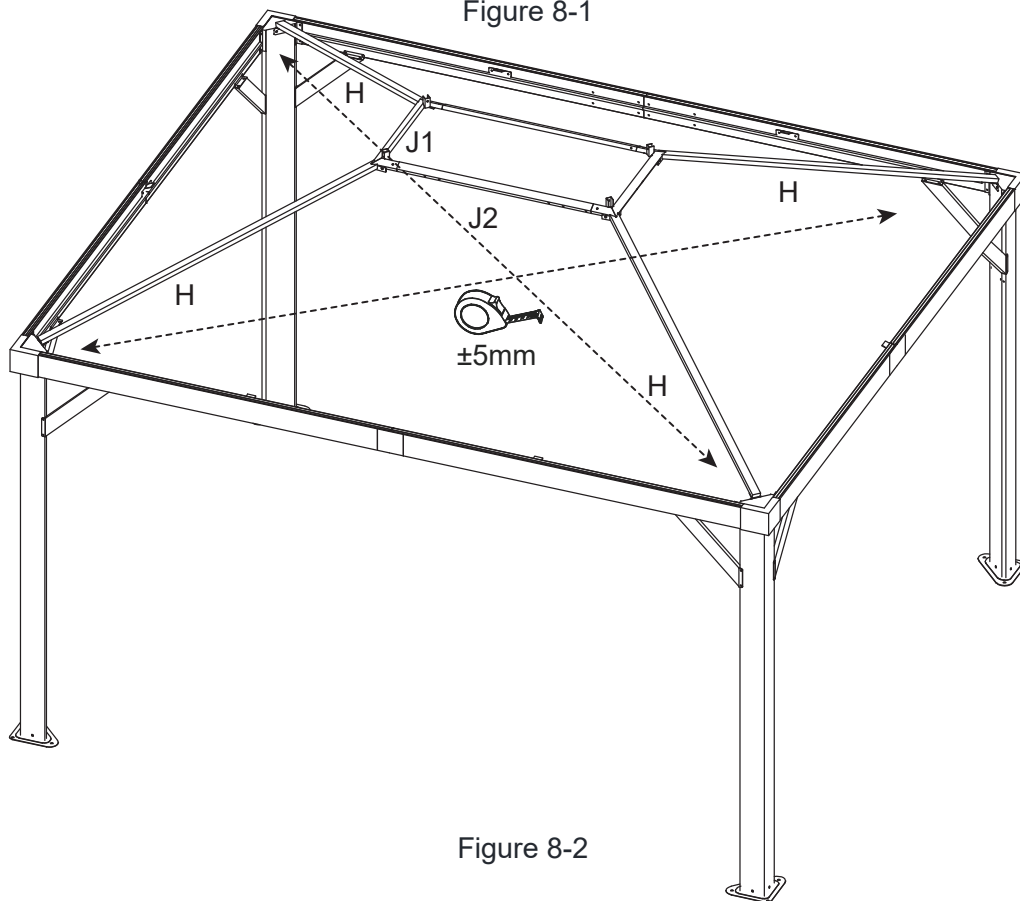

Figure 8-2
**Note:** You will need a second person to hold the Main Roof Center Frame while attaching the main Roof Corner Support (H).
**Note:** diagonal measurements from corner to corner must be within 5mm of the same distance. See Figure 8-2.